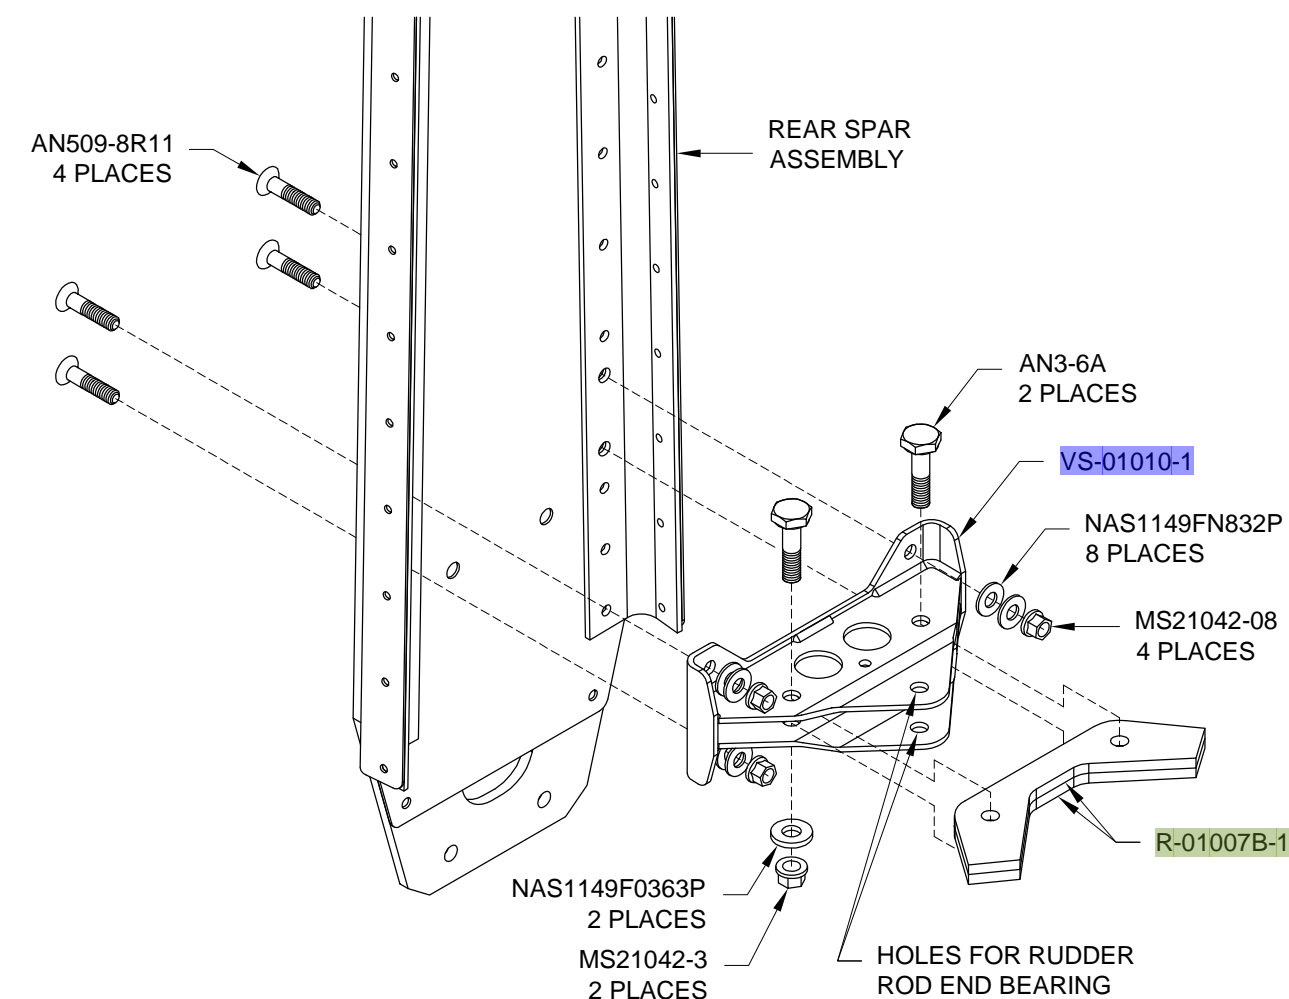

FIGURE 2: ATTACHING THE BOTTOM HINGE BRACKET AND RUDDER STOPS
Step 2: Use a #12 drill bit to clean the powder coating from the three sets of #12 holes in the **VS-01010-1** Bottom Rudder Hinge Bracket. These holes are used to bolt on the **R-01007B-1** Rudder Stops and the bottom rod end bearing of the rudder. See Figure 2.
Step 3: Heavily deburr (and straighten if necessary) the two **R-01007B-1** Rudder Stops, then bolt them in the **VS-01010-1** Bottom Rudder Hinge Bracket as shown in Figure 2.
Step 10: Attach the **VS-01010-1** Bottom Rudder Hinge Bracket to the rear spar as shown on Page 6-5, Figure 2.